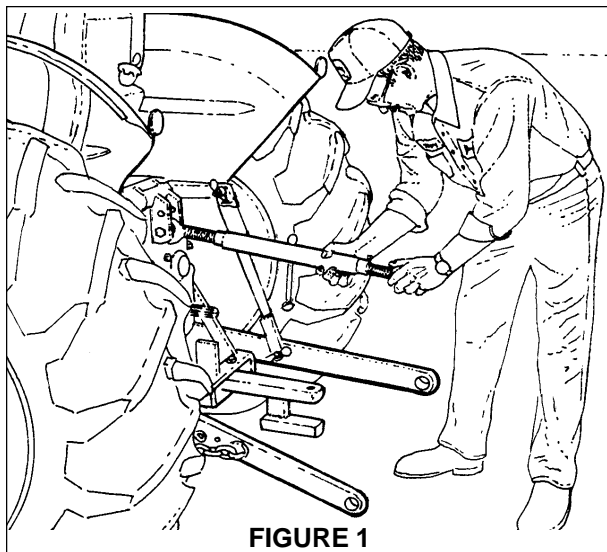

FIGURE 1
A-FRAME ASSEMBLY FOR 74" MOWER (FIGURE 1)
2. Position the tractor so that the lower hitch arms are level with and slightly ahead of the mower. Carefully inch the tractor rearward to align the tractor hitch arms outside the mower hitch arms and in line with Hitch Pins. Adjust the Top Link so it will pin to the top set of holes in the A-Frame. Stop the engine and attach tractor lift arms to Hitch Pins. Insert Lock Pins. Figure 1.
1. Lubricate at the specified intervals as outlined in the lubrication diagram below. All mower grease fittings are equipped with lubricaps which snap over the grease fittings to prevent dirt from entering the fittings. Remove the cap and wipe the fitting before greasing. Wipe the outlet of the grease gun then grease the bearing. When finished, place the cap over the fitting and wipe any excess grease from around the cap. In extremely dusty conditions, it is desirable to lubricate more often than every 8 hours. Grease PTO shaft as outlined on the diagram located on PTO shaft shield. The idler pulleys are equipped with a sealed ball bearing and require no further lubrication. Caster wheel bearings should be repacked at the end of each mowing season and checked before the start of the next season. The gearbox is shipped with the proper amount of SAE No. 90 extreme pressure lubricant. Check level before operating and maintain the level of this oil at the LOWER 1/8" pipe plug on the gearbox cover. LUBRICATE MOWER BEFORE INITIAL USE. **FIGURE 1.**